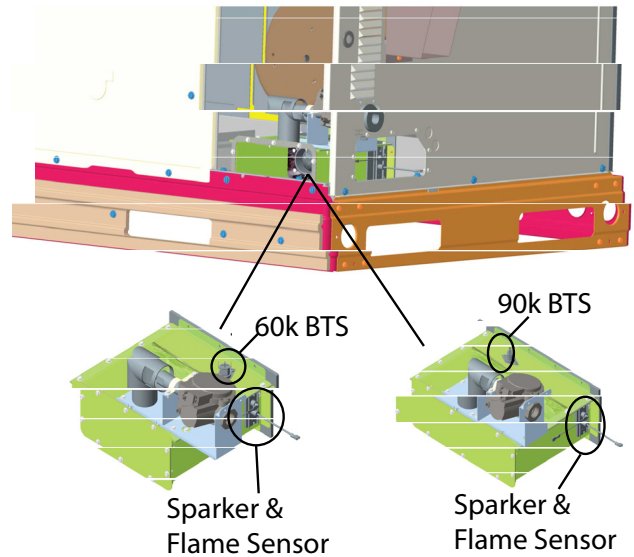

Fig. 23 – Burner Thermal Switch (BTS) (Ultra Low NOx)
2. Remove 2 screws holding the flue hood (Fig. 23) and remove the flue hood.
6. Re-connect flue hood (Fig. 23) using the 2 screws removed.
NOTE: For Ultra Low NOx The combined flame sensor/sparker is located on the right side of the burner box (See Fig. 23). The flame sensor/sparker is accessible for service by removing the cover in the right side panel. The burner thermal switch (BTS) is located on the top of the burner box. For 60k heat sizes, the BTS switch is accessible through the cover in the right side panel. For 90k heat sizes, the BTS switch is accessible by removing the control access panel.